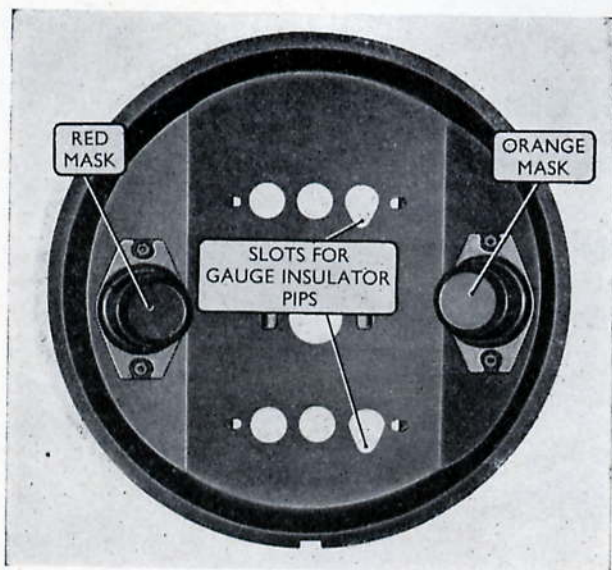

Fig. T.8. View of combined instrument case showing location of ignition/generator warning lamp mask on left, and oil warning lamp mask on right
3. Before installing a new mask, ensure that the ignition/generator and oil warning lamp masks are correctly located (Fig. T.8).
3. Ensure that the warning lamp masks are correctly located in the case (Fig. T.8), before installing the main mask.